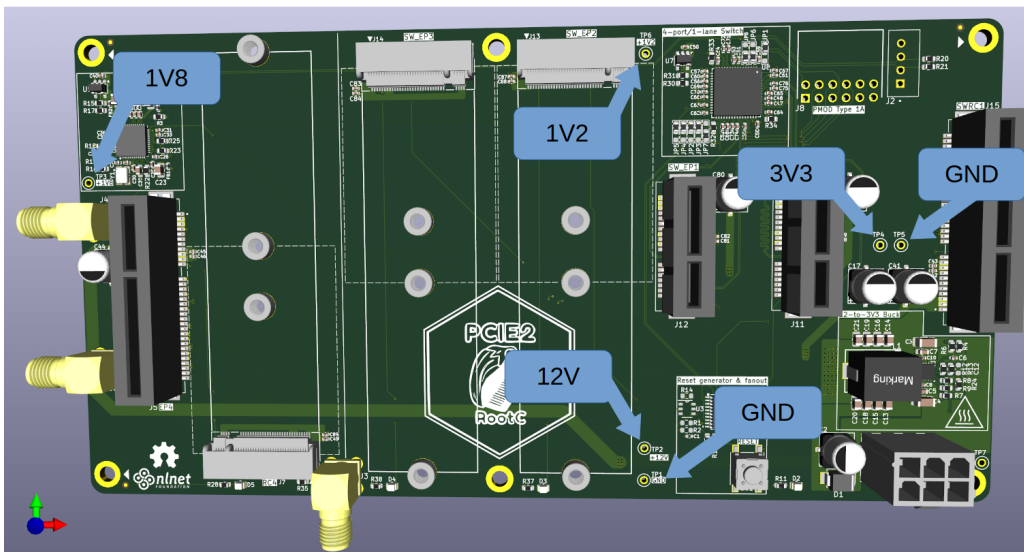

Figure 1: Voltage Measurement Points
2. **Step 1.2:** Using a Digital Multimeter, measure the voltages at the specific test points indicated in **Figure 1** below. Reference all measurements to the board Ground (GND).